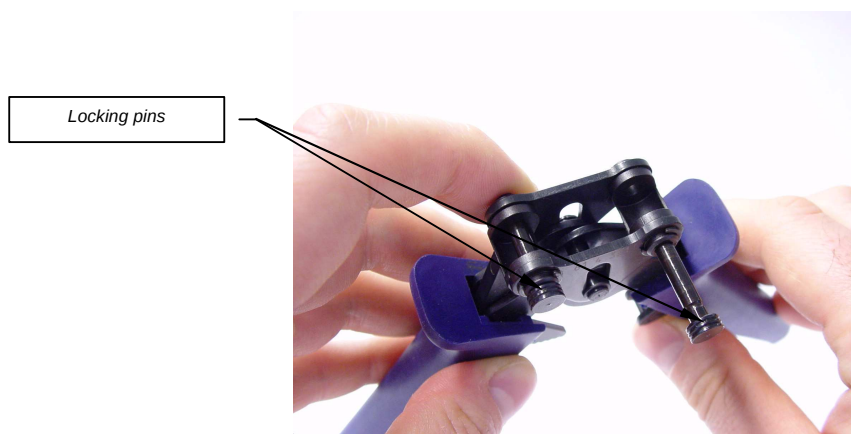

Figure 3
- 1.** At first both locking pins of the handle need to be pulled out completely (see figure 3).